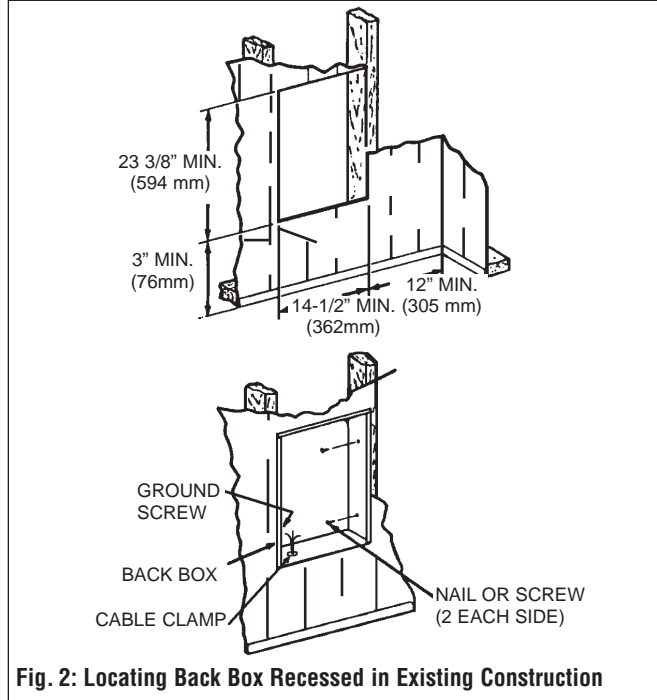

Fig. 2: Locating Back Box Recessed in Existing Construction
1. Provide a wall opening 14-1/2" (362mm) wide by 23-3/8" (594mm) high at the desired mounting height, but no closer than 3" (76mm) from floor and 12" (305mm) adjacent walls (See Figure 2) and 18" (458mm) to the ceiling.